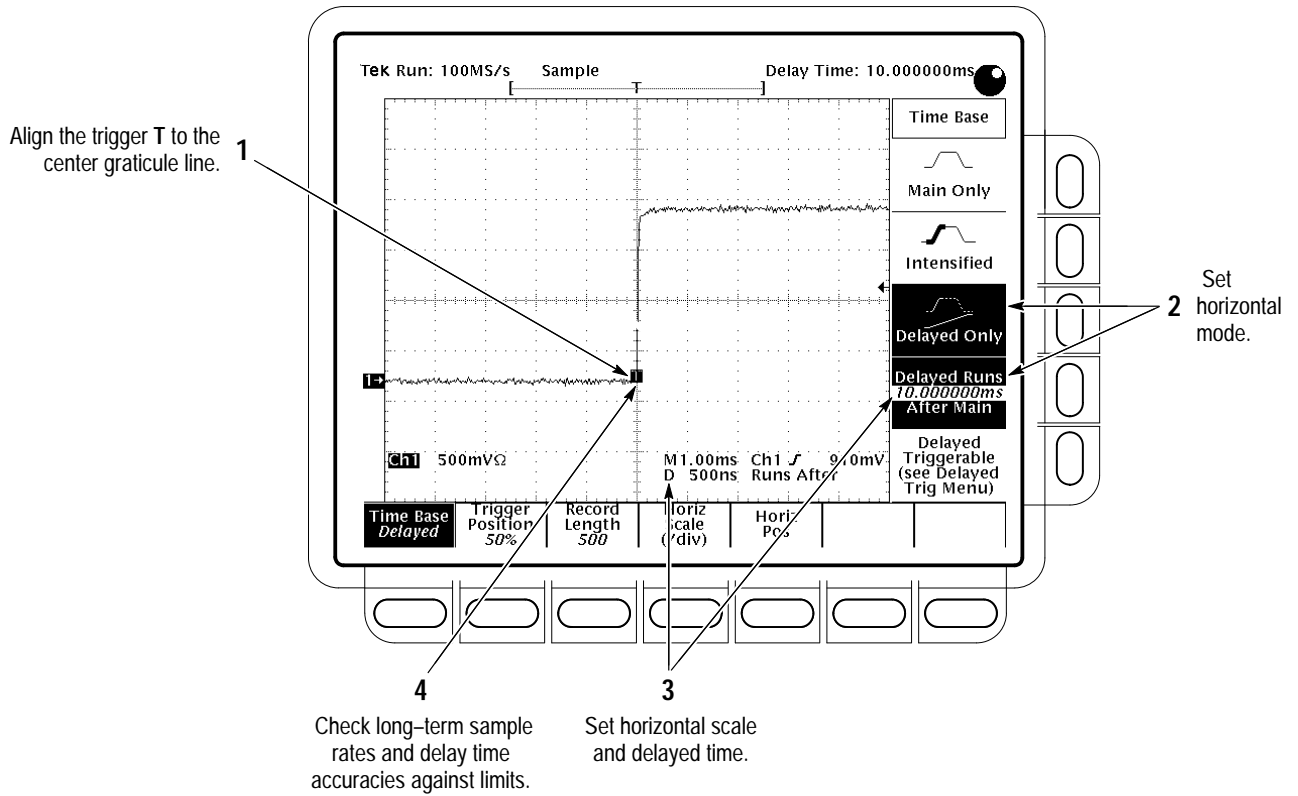

Figure 1–12: Measurement of Accuracy — Long-Term and Delay Time
- **CHECK** that the rising edge of the marker crosses the center horizontal graticule line at a point within either ± 2.0 , for the TDS 684A, or ± 2.5 , for the TDS 7XXA, divisions of center graticule. See Figure 1–12.